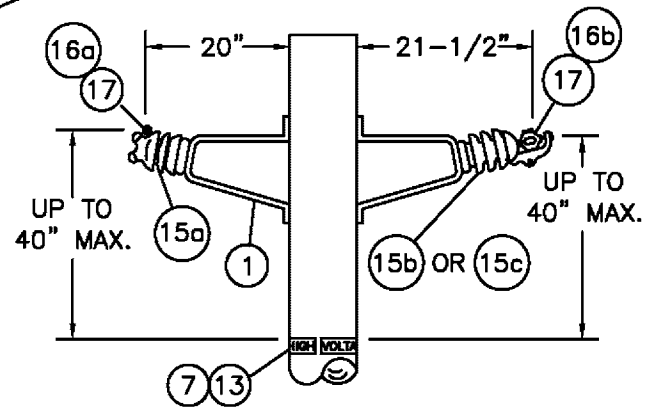

FIGURE 4
- N. AN INSULATOR MOUNTED DIRECTLY ON THE SIDE OF A POLE SHALL BE CONSIDERED AS IN A HORIZONTAL POSITION (SEE FIG. 4). AN INSULATOR MOUNTED DIRECTLY AT THE TOP OF THE POLE IN A VERTICAL POSITION SHALL BE CONSIDERED AS IN A VERTICAL POSITION (SEE G.O. 95 RULE 54.11 A).